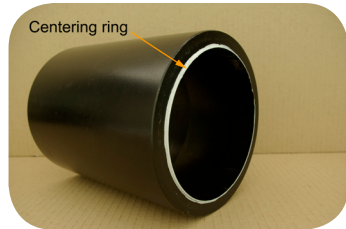

Fig. 3 · Receiver tube with centering ring
When assembling the removal tool, always make sure that the receiver tube end (5) without a centering ring faces toward the cover plate. The centering ring (Fig. 3) of the receiver tube is used to center the receiver tube on the trailing arm receptacle. When the removal tool is used, the centering ring must always face toward the trailing arm receptacle.